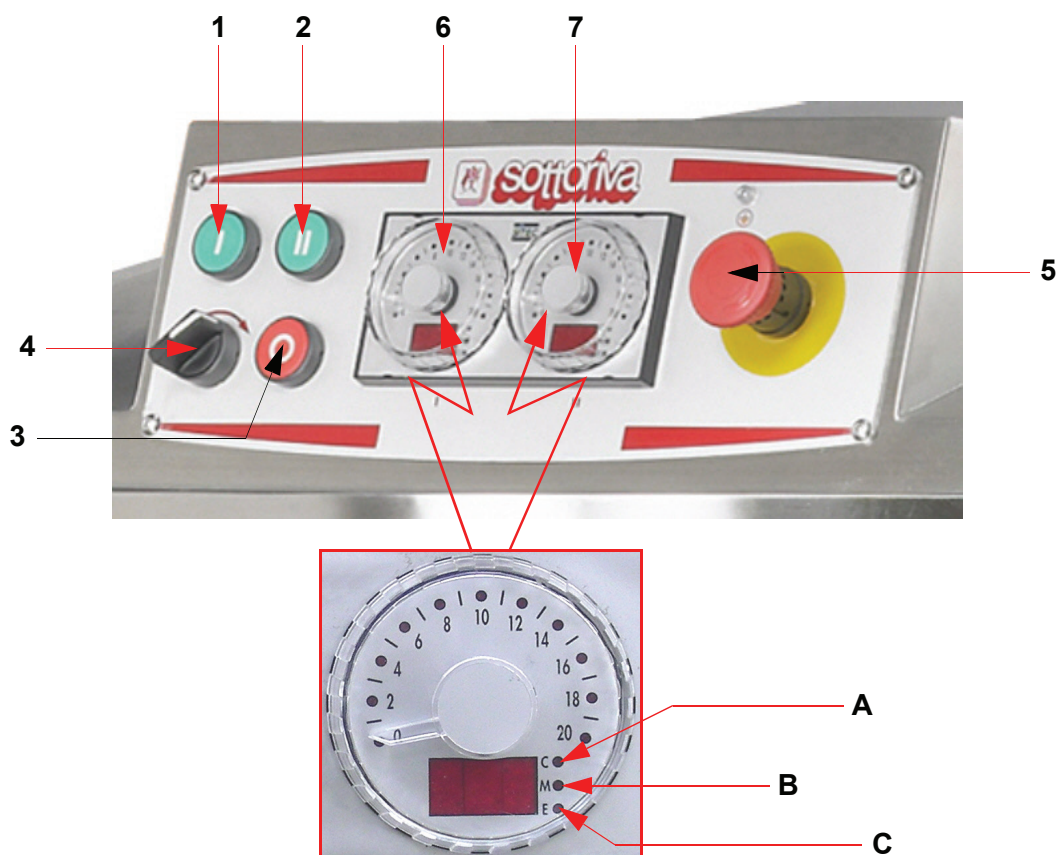

Fig. 12 Control panel
- 10) set a minimum time on the timer (**ref. 6 - Fig. 12** on page 41);
- 11) press the low speed start button (**ref. 1 - Fig. 12**);
- 13) Press the button (**ref. 3 - Fig. 12**) to stop the machine.
- **In case of danger**, press the mushroom head button (ref. 5 Fig. 12 on page 41) to run an emergency stop.
- 2) reset the mushroom-head button (ref. 5 Fig. 12);
- 3) press the low speed start button (ref. 1 Fig. 12);
- 5) press the high speed start button (ref. 2 Fig. 12).
- **To stop the machine**, press the stop button (ref. 3 Fig. 12).
- 1) press the machine stop button (ref. 3 Fig. 12);
- 3) make sure that all safety equipment is in place and operational: mobile guard interlock and mushroom-head button (**ref. 5 Fig. 12** on page 41) to trigger the emergency stop;
- a start button (**ref. 1 - Fig. 12**), for low speed operation;
- a start button (**ref. 2 - Fig. 12**), for high speed operation;
- an emergency stop button (**ref. 3 - Fig. 12**);
- a three position switch (**ref. 4 - Fig. 12**) which runs the bowl in both directions (only enabled at low speed);
- a mushroom-head pushbutton (**ref. 5 - Fig. 12**) for emergency shut-down;
- a timer for manually setting the duration of the low speed cycle (**ref. 6 - Fig. 12**);
- a timer for manually setting the duration of the high speed cycle (**ref. 7 - Fig. 12**);
Turn the collars to set the durations of the low and high speed cycles. Press the start button to start the count, which is indicated by the flashing of the “C” (COUNT) led **ref. A Fig. 12** on page 41 and the indicator LED bar or displays (where applicable).
To operate the machine manually, turn the collar all the way anticlockwise. This mode is indicated by the “M” (MANUAL) led **ref. B Fig. 12**. To cut out the automatic low speed count, turn the LH collar to the “MANUAL” position; do the same with the RH collar to cut out the automatic high speed count. The machine is now controlled completely manually with the external start and stop controls.
When the collar is set to 0, the “E” (EXCLUDED) led **ref. C Fig. 12** lights up. In this case the machine may not operate with the external start and stop controls. If, for example, the LH (low speed) timer collar is set to “EXCLUDED”, the machine will run only at high speed.
- 7) Set on the timer (**ref. 6 Fig. 12**) the duration of the low speed cycle, as instructed in “6.4 Correct use of the machine” on page 39 (at least 2 minutes).
- 8) Set on the timer (**ref. 7 Fig. 12**) the duration of the high speed cycle.
- 9) Turn the switch (**ref. 4 Fig. 12**) to the right-hand position to rotate the tank clockwise, or to the left-hand position to rotate the tank anticlockwise; the movement can be inverted or stopped (switch position 0) at any time.
- 10) Press the start button (**ref. 1 Fig. 12**) for low speed operation.
When the low speed count expires (**ref. 6 Fig. 12** on page 41) the machine will automatically start the high speed cycle, which lasts for the duration set on the timer (**ref. 7 Fig. 12**).
**After at least 2 minutes of low speed operation, if the flour in the bowl is well amalgamated with the water and no free powder is visible, you may run the machine manually at high speed by pressing the button (ref. 2 Fig. 12).**
- **automatically:** when the kneading cycle times set on the timers (**ref. 6 and ref. 7 Fig. 12**) have expired, the tool automatically stops rotating;
- **manually:** press the machine stop button (**ref. 3 Fig. 12**) to stop the machine under normal conditions;
- **in an emergency:** press the mushroom head button (**ref. 5 Fig. 12**) to stop the machine immediately or open the bowl's mobile guard (**ref. 10 Fig. 5**).